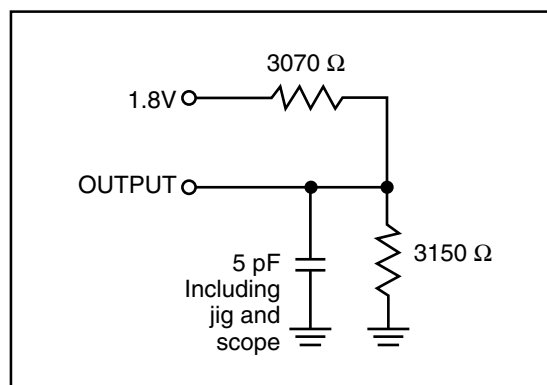

Figure 2
2. Tested with the load in Figure 2. Transition is measured ±500 mV from steady-state voltage. Not 100% tested.
- Tested with the load in Figure 2. Transition is measured  $\pm 500$  mV from steady-state voltage. Not 100% tested.